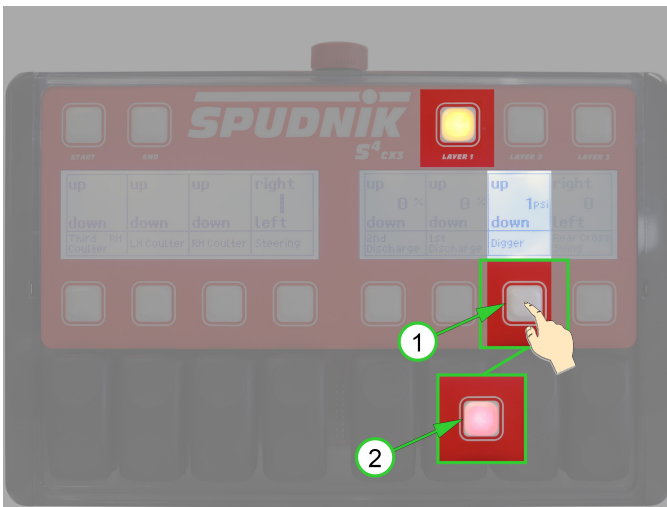

Figure 31
In addition, Ridge Relief/Digger control can be manually engaged/disengaged by pressing *LAYER 1* soft key 7 (*Digger*) which toggles Ridge Relief (2) on and (1) off. (See Figure 31)